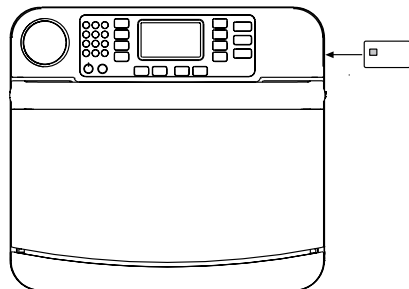

Figure 10: Smart Card / USB Slot Location
2. Insert the USB device or smart card (Figure 10).